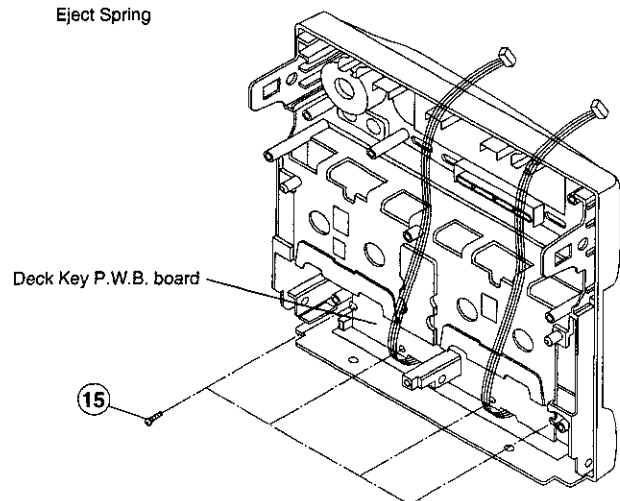

Fig. 13
(1) Gently, squeeze together the bottoms of the cassette door latches. When the latches are free of the restraining holes, remove the cassette door by pulling it forward.
13. **Removal of Deck Key P.W.B. Board (Fig. 13)**